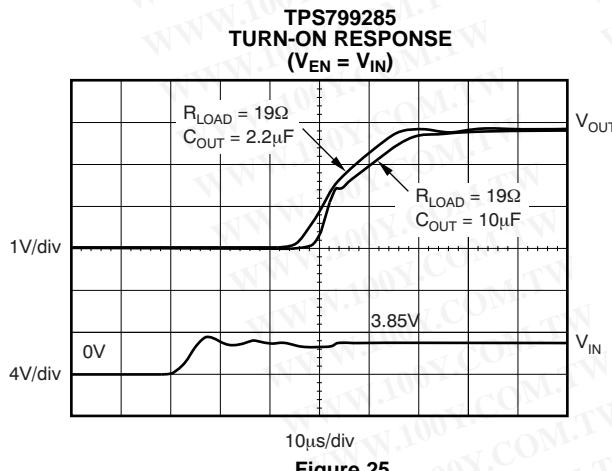
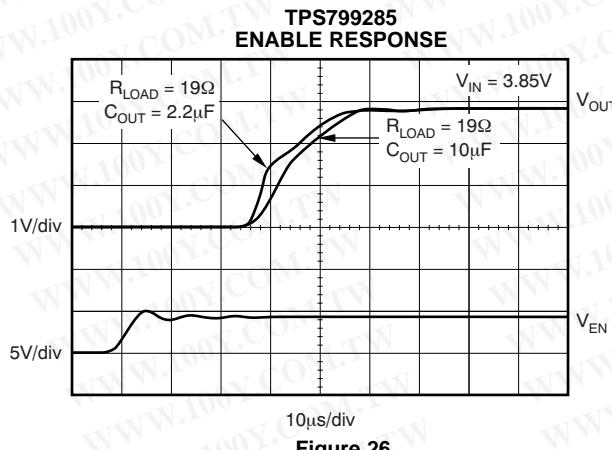

Figure 25.
Figure 26.
Note that for fastest startup,  $V_{IN}$  should be applied first, then the enable pin (EN) driven high. If EN is tied to IN, startup will be somewhat slower. Refer to Figure 25 and Figure 26 in the *Typical Characteristics* section. The quick-start switch is closed for approximately 135μs. To ensure that  $C_{NR}$  is fully charged during the quick-start time, a 0.01μF or smaller capacitor should be used.